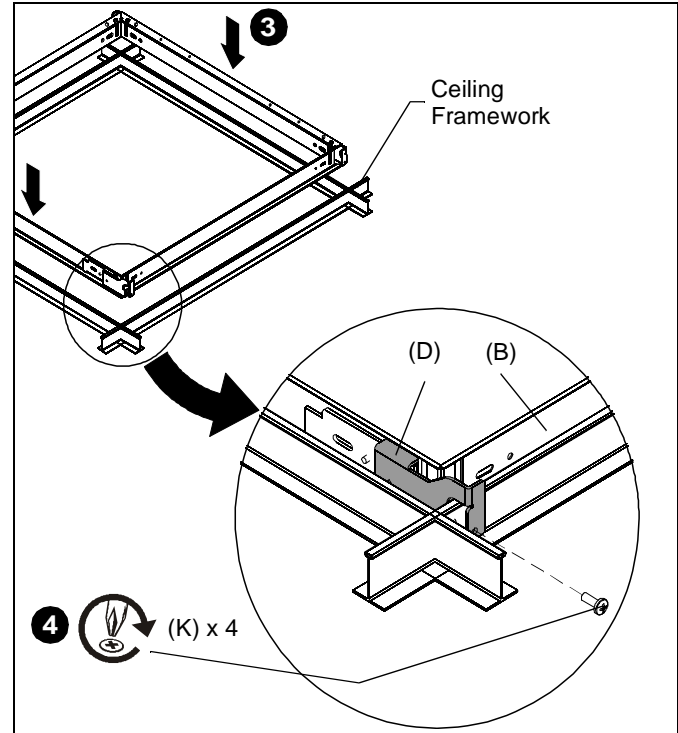

Figure 3
3. Set SL220 frame over top of ceiling framework, hooking each horizontal bracket (D) onto the ceiling framework. (See Figure 3)
4. Secure SL220 frame (B) to ceiling framework using one 10-24 x 1/2" Phillips head screw (K) through each horizontal bracket (D) at each corner. (See Figure 3)